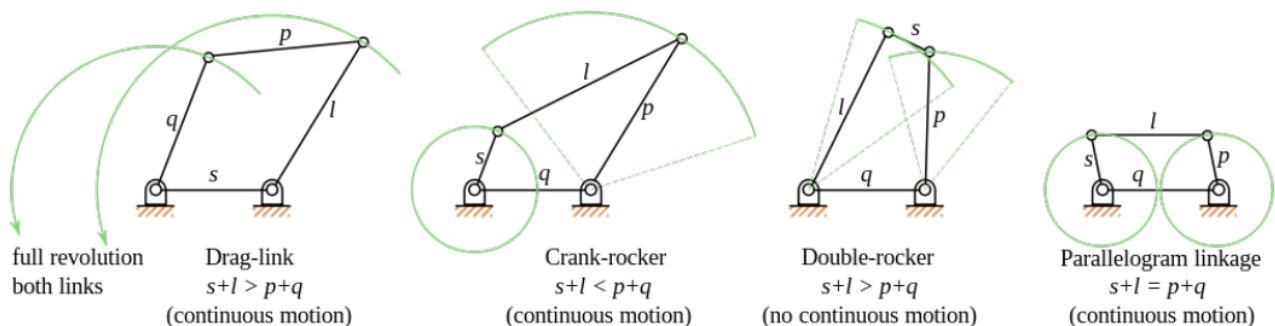

Fig. 1: Four-bar linkages [wikipedia](https://en.wikipedia.org/wiki/Linkage). s = smallest link length; l = longest link length; p, q = other two lengths..
To accentuate the interesting motions of linkages, we can add tracer particles to the links (like the green lines in Fig. 1.) The following code creates a particle.
1. Design a family of four-bar linkages http://en.wikipedia.org/wiki/Four-bar_linkage. See also Fig. 1. The sample code (`linkage(0)`) produces a crank-rocker mechanism, since the shortest link, s , is the crank (driver). Copy and paste this sample code and create a drag-link mechanism and a double-rocker mechanism. **Place all the code in the appropriate case block.** For the double-rocker, the driver motion must be oscillatory, not rotational.